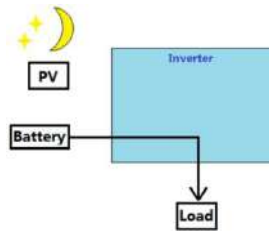

Figure1-11 Night
3. When PV is insufficient, Battery supplies power to the load. (Figure1-11)